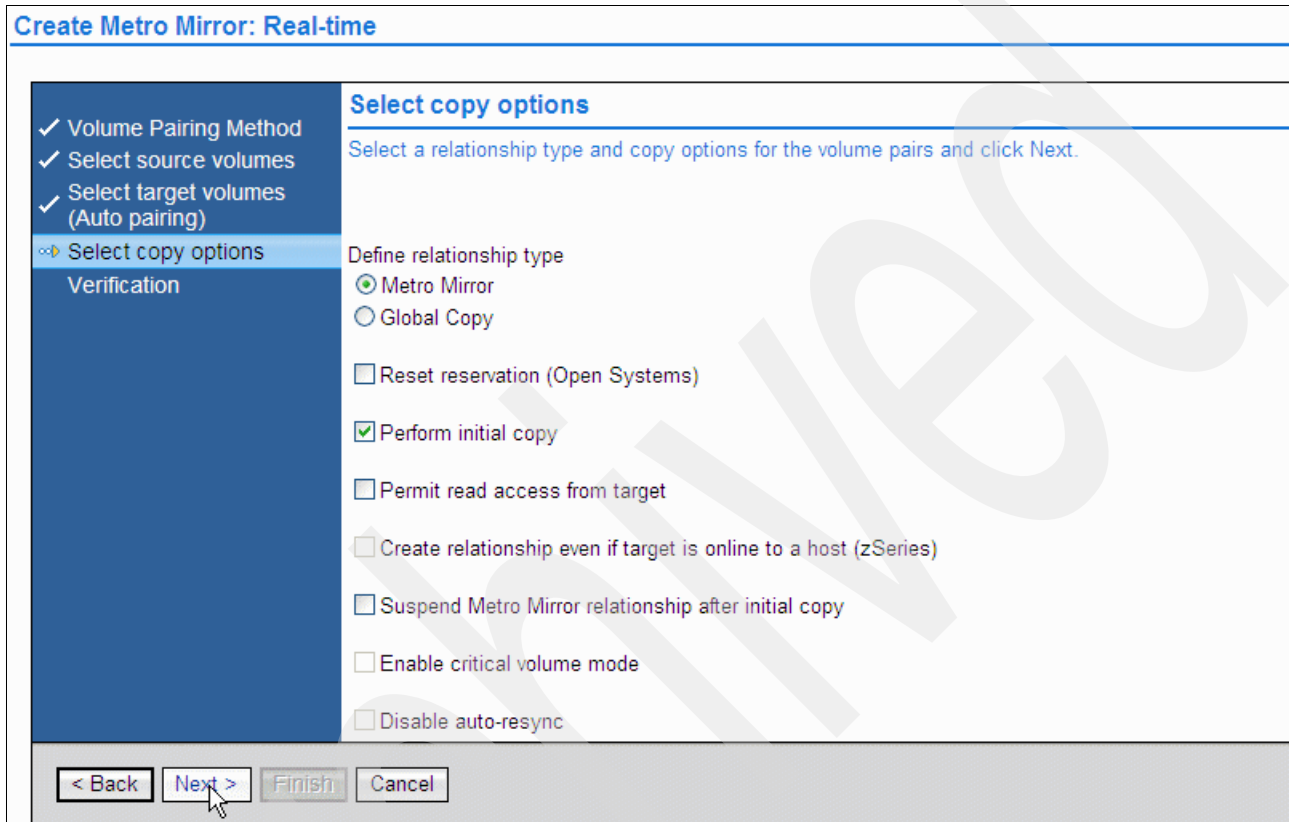

Figure 12-8 Select copy options for Metro Mirror
7. The Select copy options panel offers additional options that you can select, as shown in Figure 12-8. Not all of the options are valid for the System i5 platform. For a detailed explanation of each option, see the online help text using the question mark (?). In our example, we select the **Perform initial copy** option. This option guarantees that the source and target volume contain the same data. When Metro Mirror relationship is created with this option, the entire source volume is copied to target volume. Click **Next** to continue.